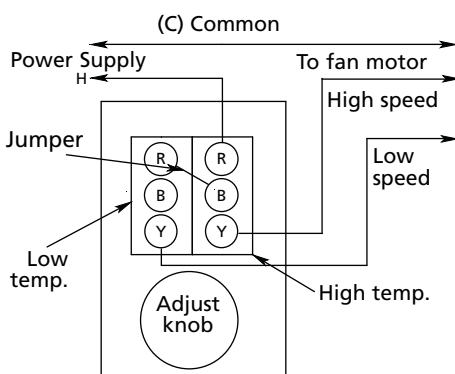
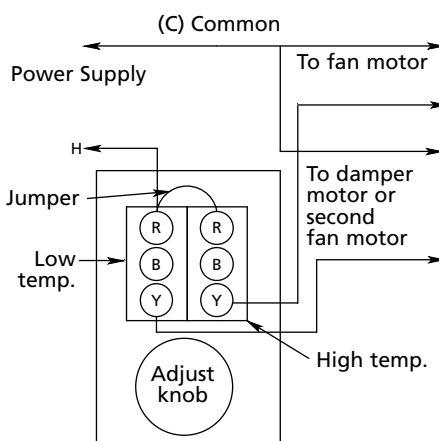

Figure 7 – Two-stage SPDT/SPDT Thermostats in Control of a Two-speed Ventilating Fan
Figure 8 – Two-stage SPDT/SPDT Thermostats in Control of a Single-speed Ventilating Fan and Volume Increase Damper Motor
Figure 7 shows wiring for controlling a two-speed ventilating fan. When the control element reaches the knob settings, the low temperature switch starts the fan on low speed. If the ambient temperature continues to rise, the high temperature switch supplies power to the high-speed motor winding while disconnecting the low-speed winding.
Figure 8 shows a typical SPDT/SPDT hook-up for a two-volume fan application. The damper motor will be energized when the temperature reaches the knob setting. If the temperature continues to rise, the fan motor will be energized by the high temperature switch.
3. Thermostats with SPDT/SPDT 2 Stage switching: If connection is similar to Figure 7, fan should start at approximately ambient temperature and should change to high speed, as the knob is turned counterclockwise to a lower temperature setting. If wiring is similar to Figure 8, the damper should open as the knob is turned counterclockwise (to lower temperature setting). The devices should act in reverse sequence when the knob is turned clockwise.